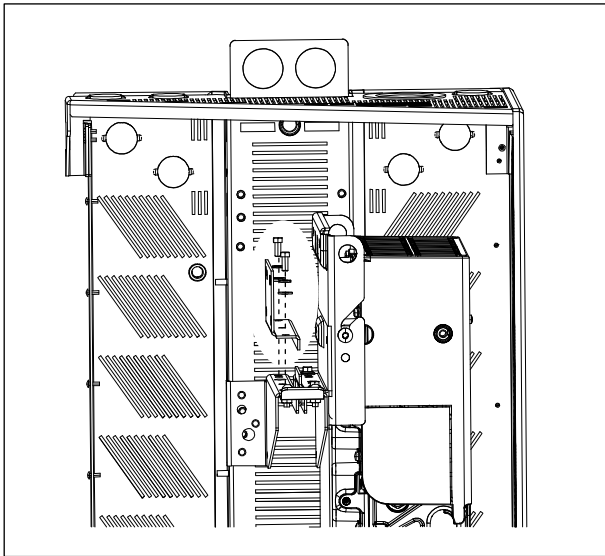

Figure 10
1. Mount the power supply support plate onto the upper left hanging bracket (Figure 10). Secure using two 1/4-20 hex screws with lock washers and flat washers.